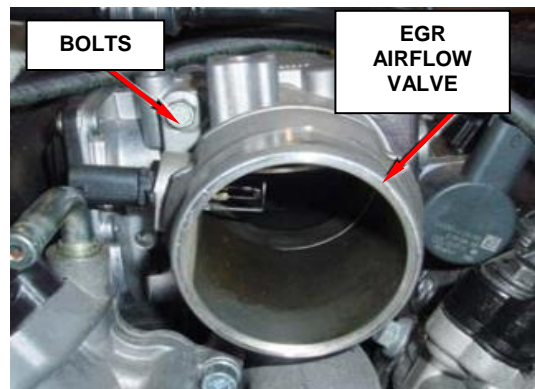

Figure 25 – EGR Valve
35. Remove the bolts and position the EGR airflow control valve forward to access the wire harness connector (Figure 25).
12. Install the EGR airflow control valve and tighten the bolts to (9 N·m 80 in. lbs.). (Figure 25).